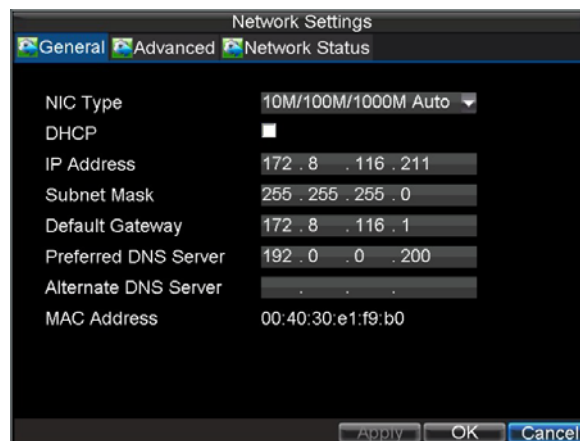

Figure 1. Network Settings Menu
1. Enter the Network Settings menu, shown in Figure 1 by clicking Menu > Settings > Network.